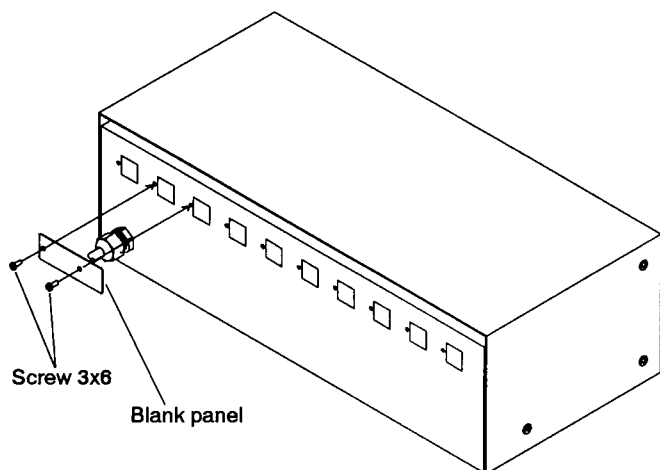

Fig.7
10. Attach the blank panel to the connector cover. (Figure 7)